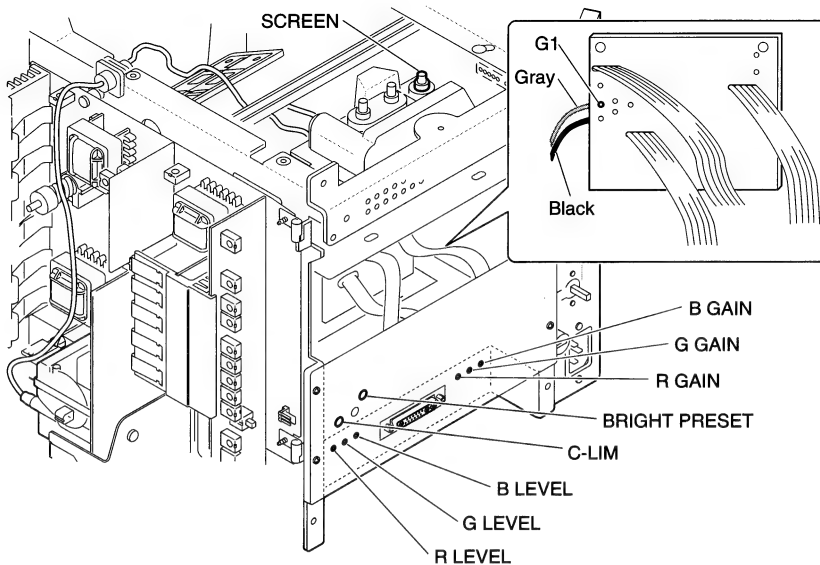

Figure 18 Video Adjustment Controls
6. FIGURE 18. Preset the following adjustment controls to minimum (full counterclockwise).
7. FIGURE 18. Using the voltmeter and the insulated screwdriver, adjust the BRIGHT PRESET control to increase the G1 voltage by 4 volts (± 0.2 V).
8. FIGURE 18. Adjust the SCREEN control until the raster just appears. (The entire screen should be obviously tinted, but very dark.)
10. FIGURE 18. Adjust the red, green, and blue GAIN controls to midrange.
11. FIGURE 18. Adjust the BRIGHT PRESET control to minimum (full counterclockwise).
14. FIGURE 18. Adjust the C-LIM control until the center of the all-white screen measures in the middle of the "9" scale on the light meter.
16. FIGURE 18. Alternately increase the red and blue LEVEL controls until there is no predominant color (no colored tint) in the right (darkest) five bars. Use the green LEVEL control only if you cannot obtain a proper adjustment using the red and blue LEVEL controls.
17. FIGURE 18. Alternately adjust the three gain controls—R GAIN, G GAIN, and B GAIN—until there is no predominant color (no colored tint) in the left (brightest) five bars.
19. FIGURE 18. Adjust the SCREEN control until the rightmost bar is black (it should match the screen border), and the second bar from the right is barely visible.